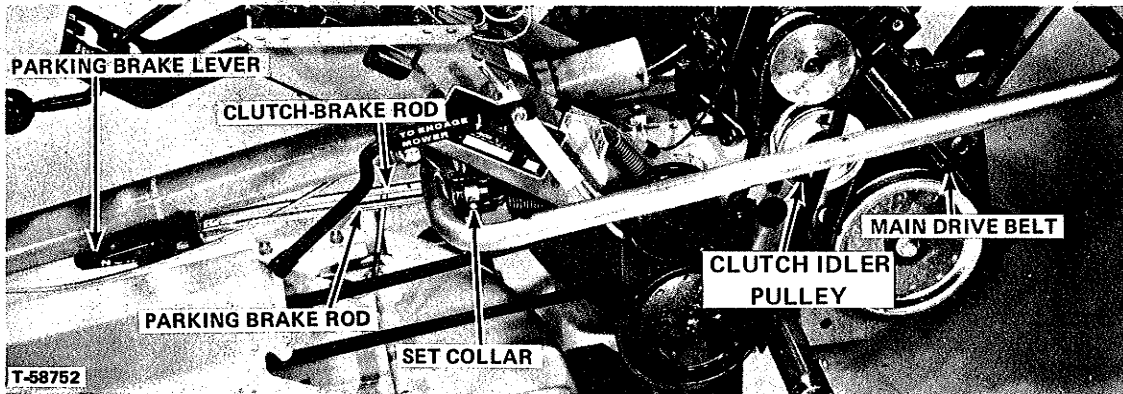
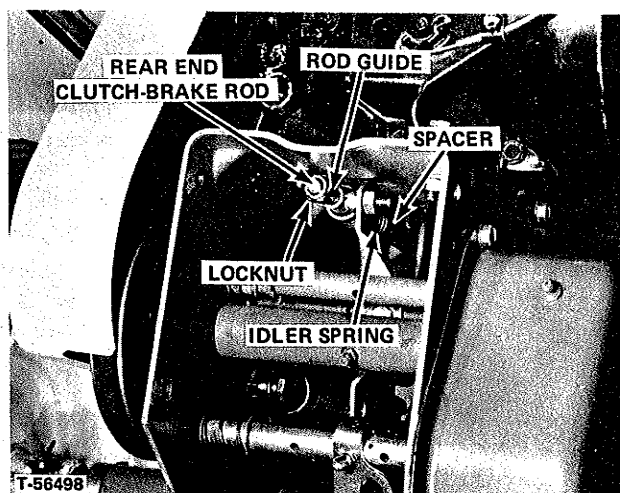
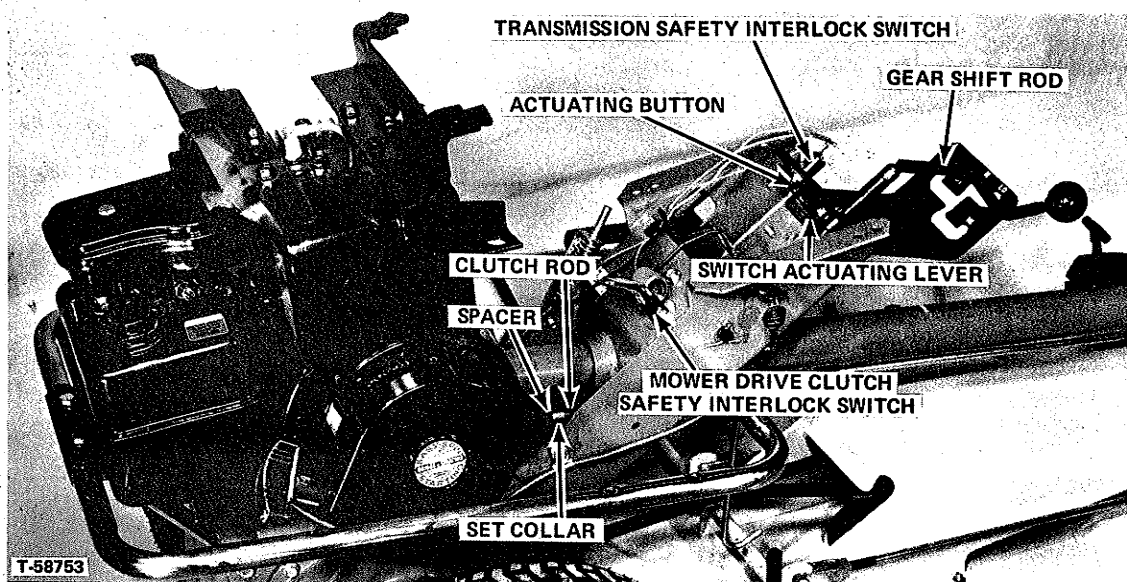

FIGURE 7
FIGURE 9 - Rear Panel And Drawbar Removed
FIGURE 10
See Figure 7. Move set collar forward on parking brake rod until brake is drawn tight when parking brake lever is pulled up to the vertical position. When applying parking brake the brake lever can be more easily raised if the foot clutch-brake pedal is fully depressed at the same time.
4. See Figure 9. Check that 1/8-inch of clutch rod is sticking through locknut at rear end of clutch rod.
5. See Figure 10. Loosen the set collar on the center of clutch rod. Note that spacer shown next to set collar is same spacer shown in Figure 9 in front of idler spring.
6. Press clutch-brake pedal fully forward and hold there with heavy pressure on brake. Rotate idler pulley, (Figure 7) rearward with light pressure until it stops. With idler held in this position, and clutch-brake pedal still fully depressed, move set collar (Figure 10) to the rear until it and the spacer pushes the idler spring (Figure 9) against the rod guide. Locate set collar so that it holds spring against rod guide without compressing the spring. Secure set collar to clutch rod with setscrew.
7. This setting should give good smooth clutch and brake action. If at any time the main drive belt slips on hard pulls, the set collar (Figure 10) should be moved to the rear 1/8-inch at a time until belt drives.
SAFETY INTERLOCK SWITCHES (Figures 10 and 11)